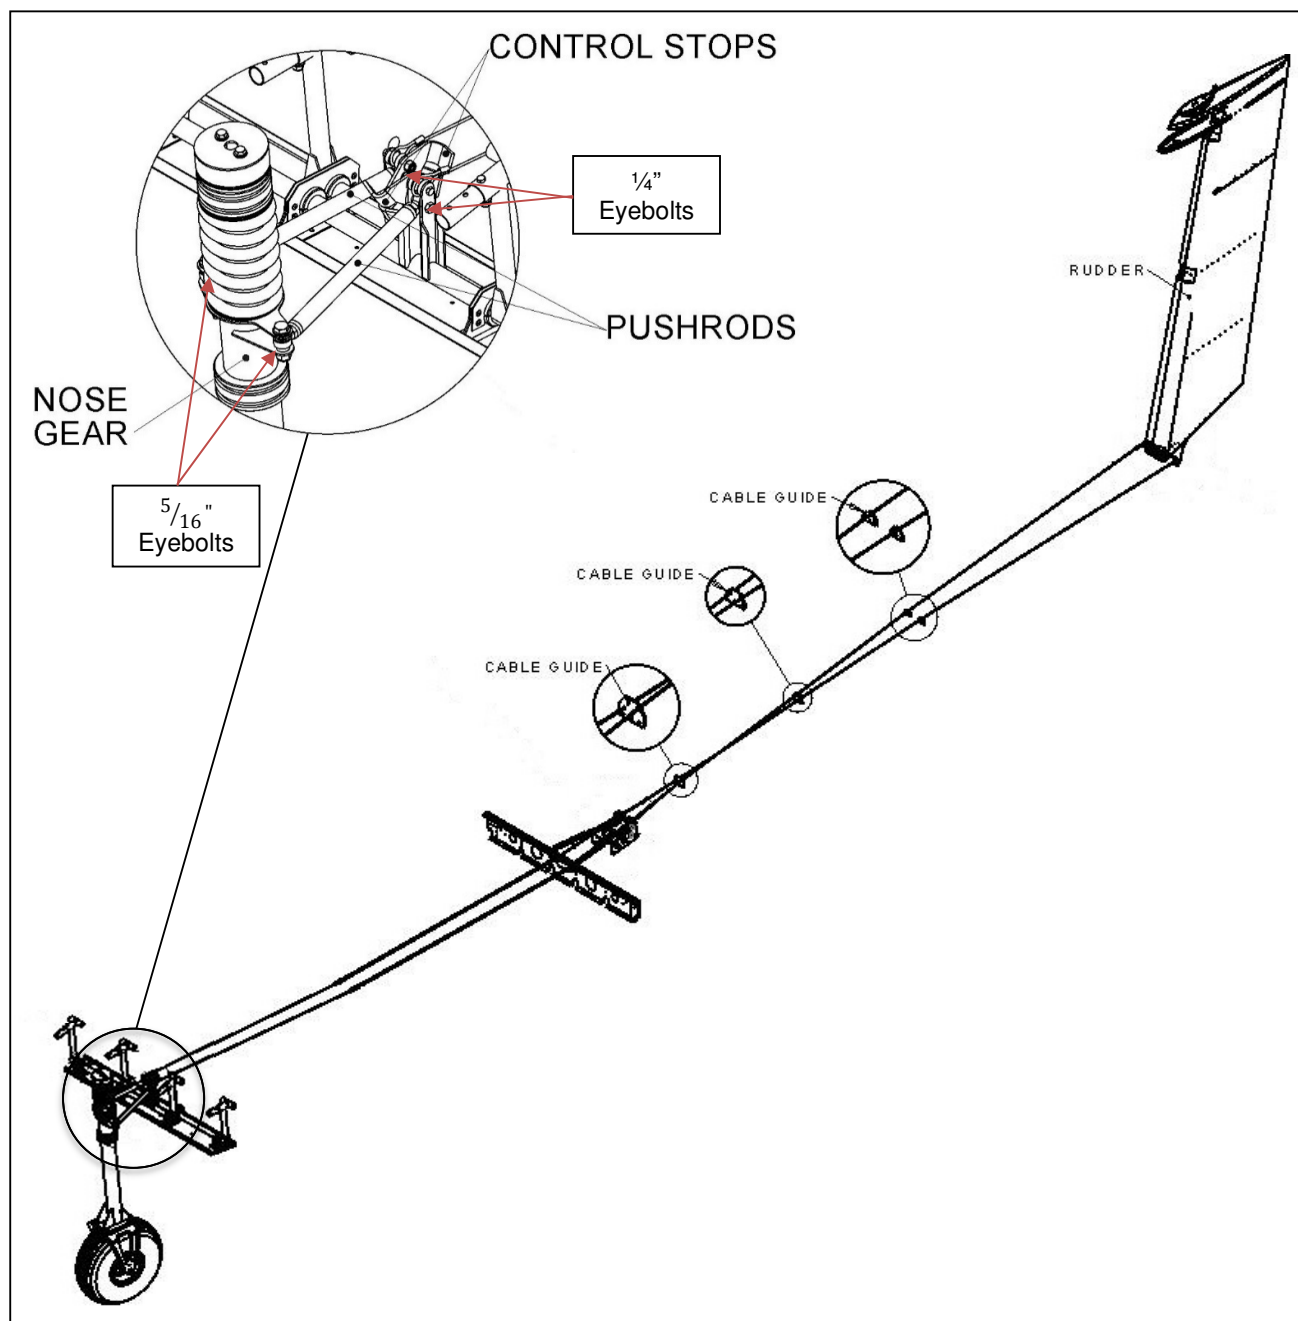
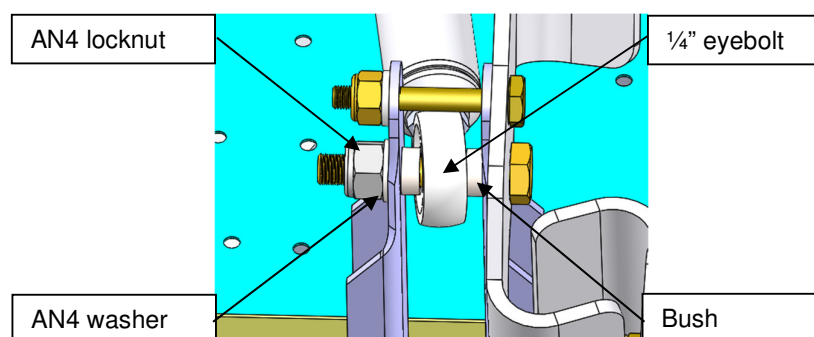

Figure 5: Rudder and Nose Wheel Controls
Figure 6: 1/4" eyebolt rudder pedal assembly
The eyebolts used in the rudder and nose wheel control arm assembly can be seen in Figure 5. The eyebolts need to be inspected and replaced where *noncompliant* eyebolts have been installed.
- Step 5. Remove the 1/4" eyebolts, these are located on the rudder pedal assembly as shown in Figure 5, and can be accessed from inside the cabin. By referring to Figure 6, remove the AN4 locknut and AN4 bolt. The 1/4" eyebolt can now be uninstalled from the pushrod.
- Step 6. Replace the 1/4" eyebolts with the correct type (either *type 1* or *type 2* may be used), reinstall them onto the pushrod and connect them to the rudder pedal assembly once more. Refer to Figure 6 for the way in which the components fit together.